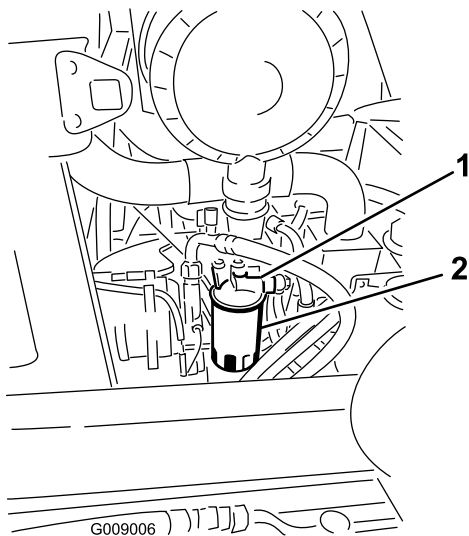

Figure 63
1. Clean the area around the fuel filter head (Figure 63).
2. Remove the filter and clean the filter head mounting surface (Figure 63).